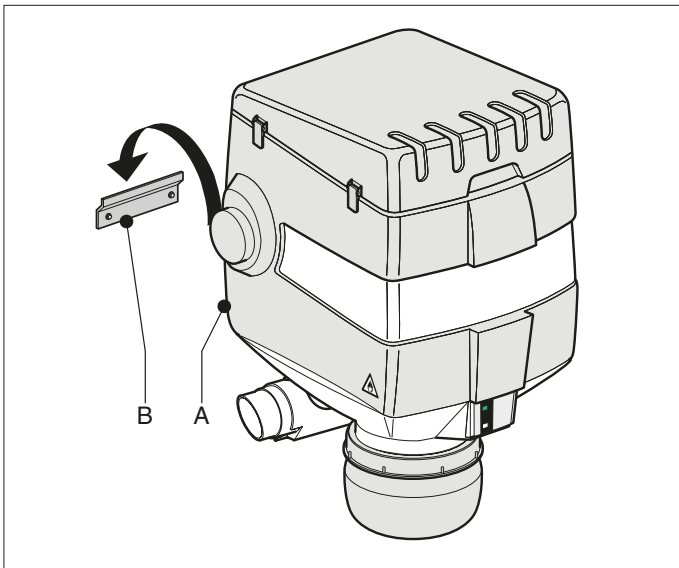

Fig. 4.3
- Position the complete SFS (Fig. 4.3 A) over the wall bracket (Fig. 4.3 B).